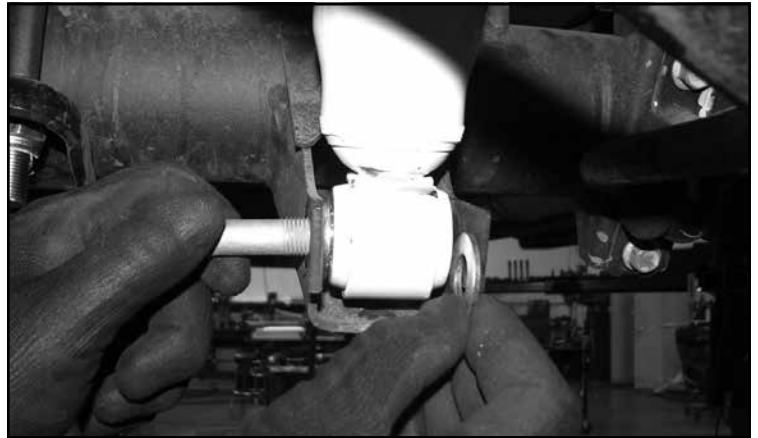

FIGURE 74 - STEP 58
58. Install the new rear shocks. **NOTE: If installing Performance or Stealth shocks use the supplied 9/16" washers to fill the gap at lower mount. SEE FIGURE 74**